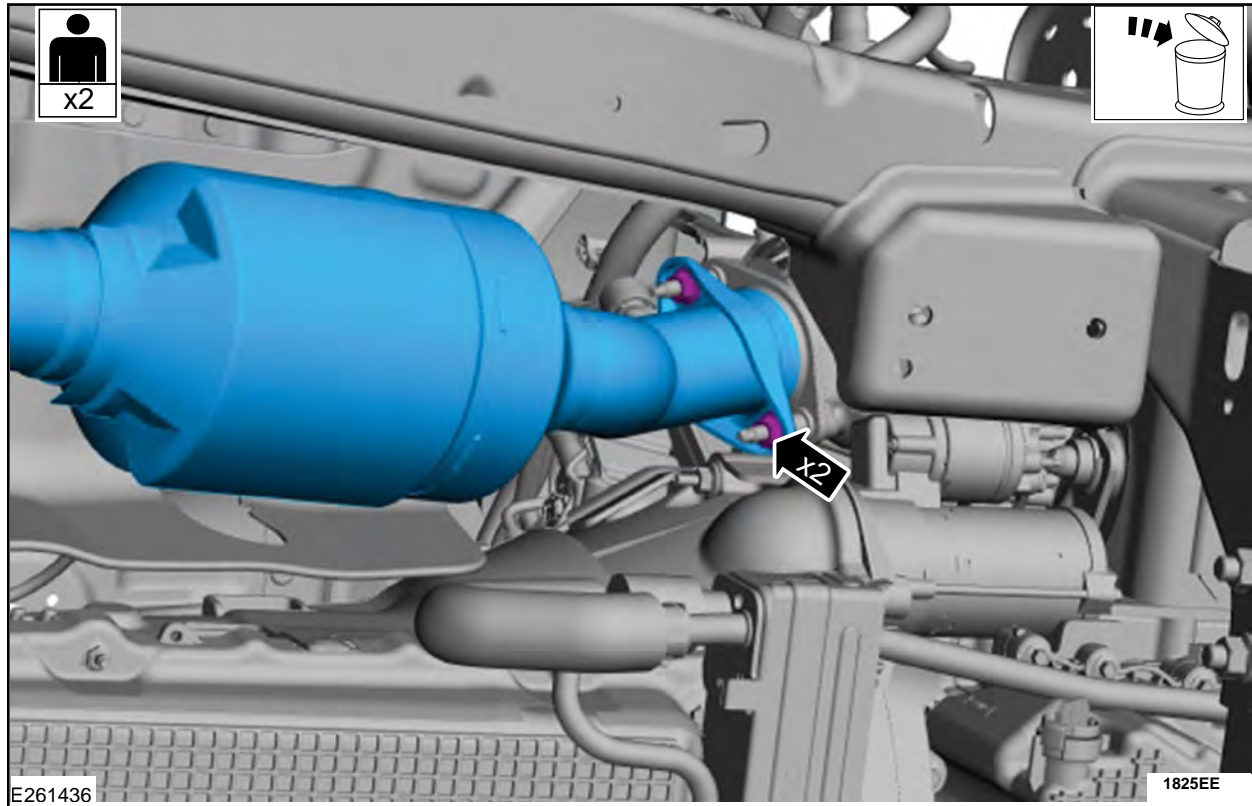

FIGURE 32
See Figure 32.
51. Install the RH catalytic converter and nuts. See Figure 32.